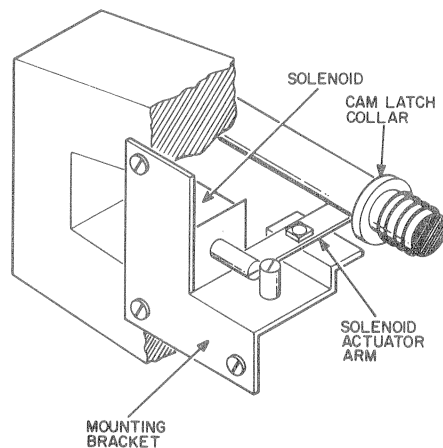

Figure 6-15. Cam Latch Solenoid Adjustment
10. To prevent binding of the actuator arm, adjust the solenoid so that the actuator arm is parallel with the mounting bracket (Figure 6-15).
13. Move the cam latch assembly until the solenoid actuator arm contacts the cam latch collar (Figure 6-15). Move the assembly forward so that the solenoid is slightly preloaded.